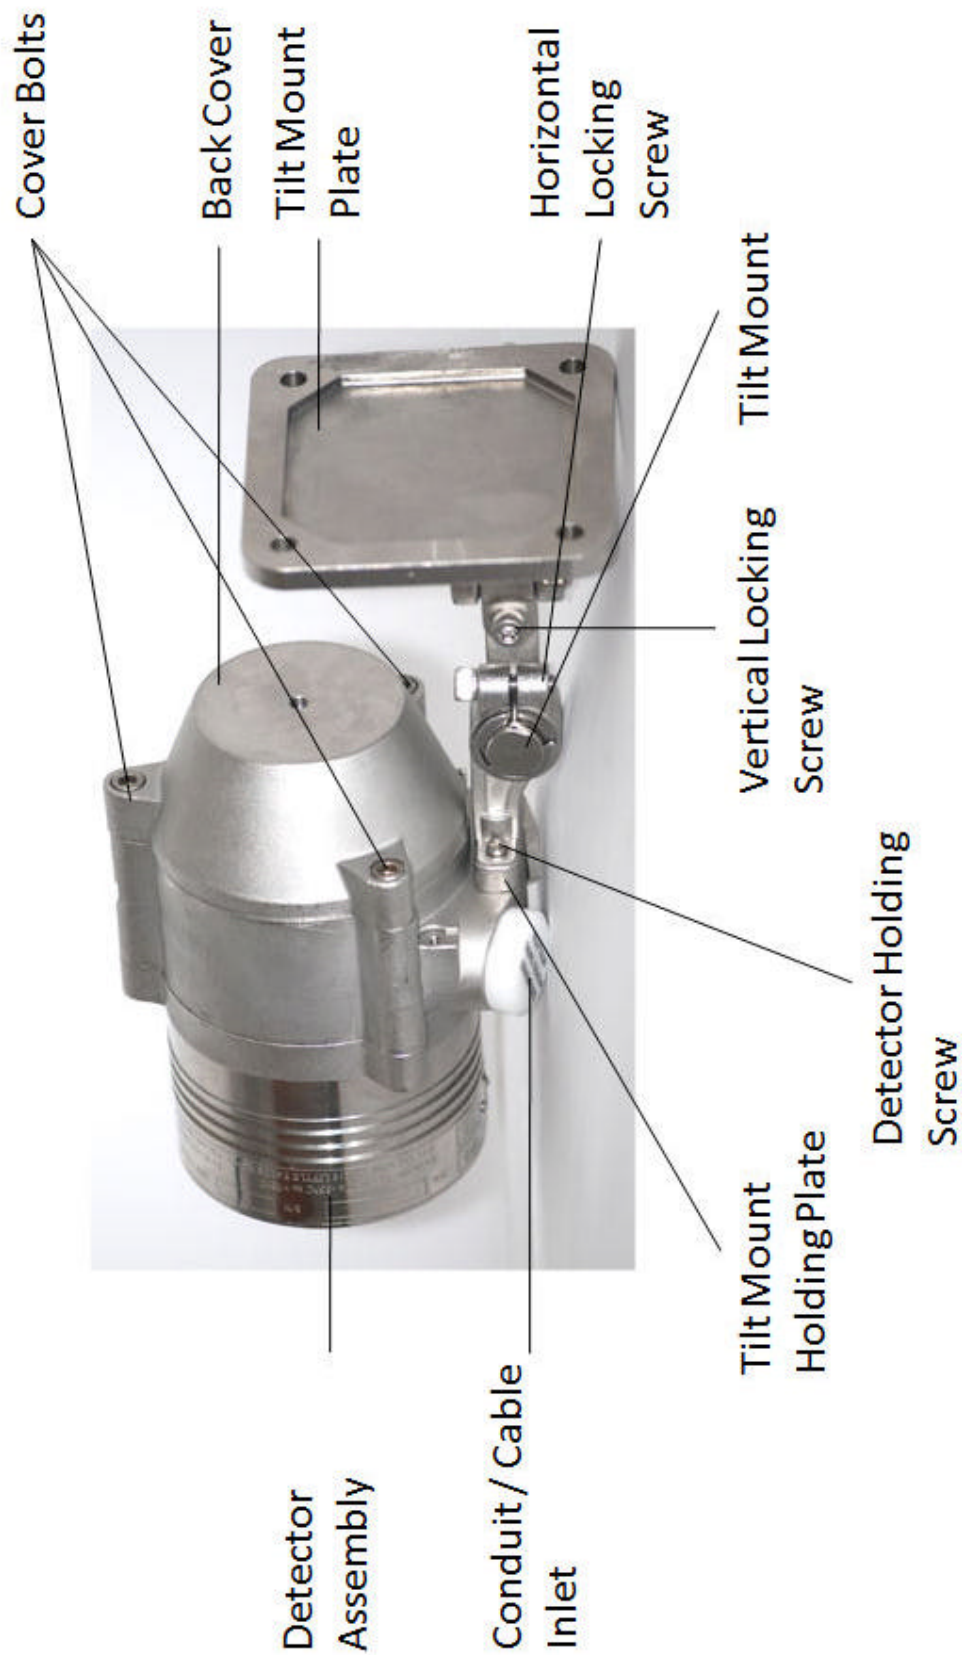

Figure 4: Detector with Tilt Mount
The Tilt Mount enables the detector to be rotated up to 60° in all directions. Figure 4 shows the Detector mounted on the Tilt Mount.
- 21** Place and secure the detector's back cover by screwing the four (4) socket-head-screws in the Cover Bolts (figure 4).